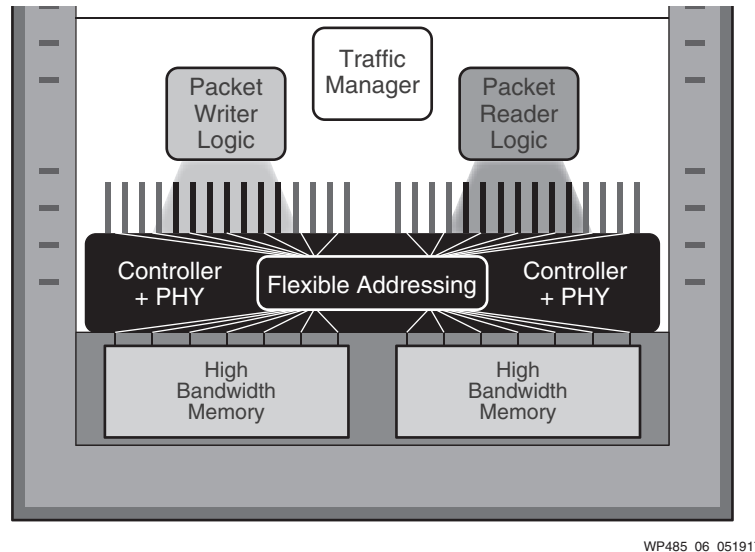

Figure 6: A Typical Ethernet Bridge Design
2. **Allows designers to connect using the most convenient AXI interface based on timing closure for the design.** For example, logic that writes to the memory no longer needs to be in the same location as logic that reads from the memory. In a basic traffic manager example, the AXI interfaces for packet writer and packet reader blocks can each be chosen to be in close proximity to the block. See Figure 6.